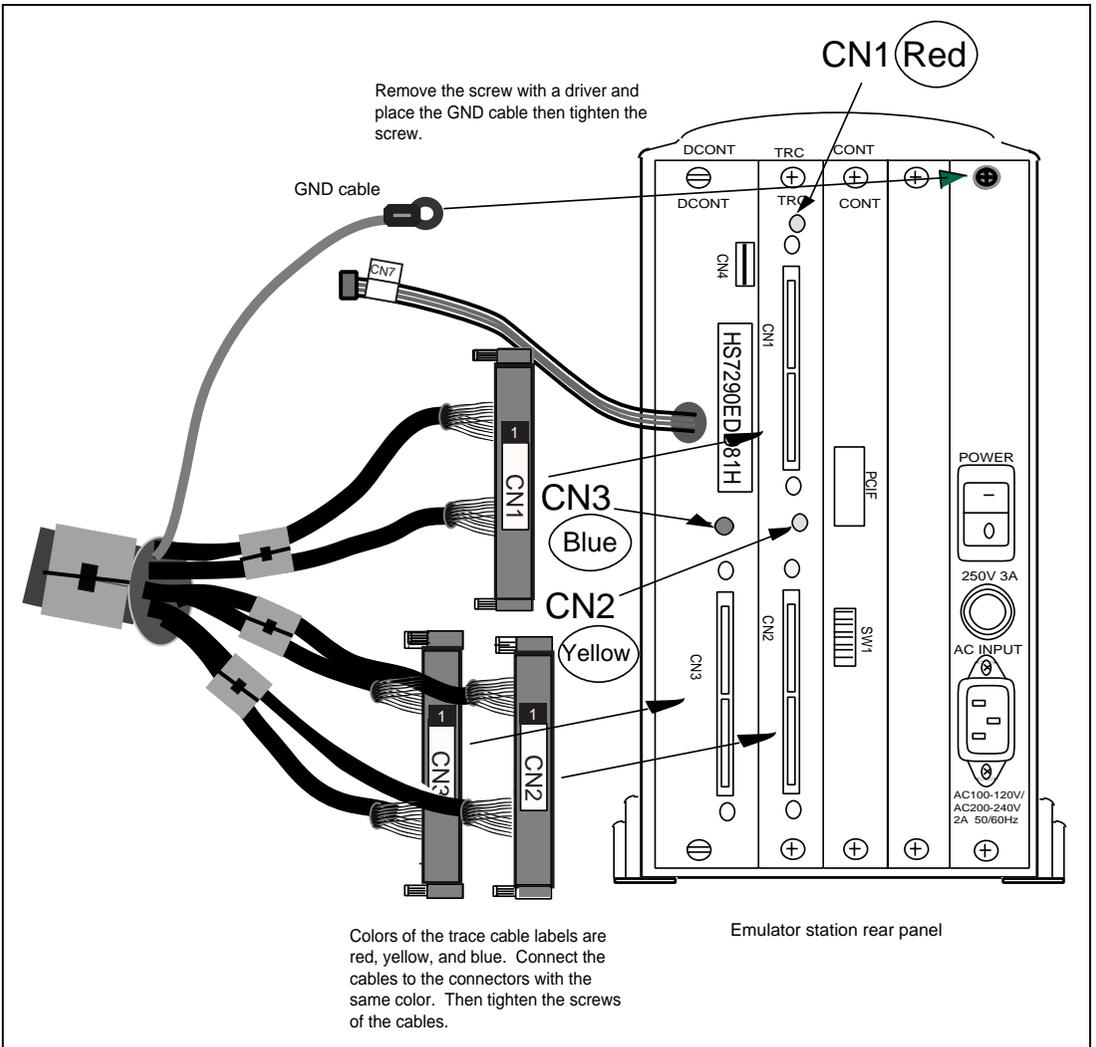

Figure 3.4 Connecting Trace Cables to the Emulator Station
3. Connect the trace cables into the station to evaluation chip board interface connectors (CN1, CN2, and CN3) on the emulator station's rear panel. Confirm that the shape of the trace-cable plug matches that of the station to evaluation chip board interface connector before connecting. Also note which trace cable is connected to which emulator-station connector so that the other end of the trace cable is connected to the matching connector number on the evaluation chip board. After the connection is completed, alternately tighten the screws on both sides of the trace cable to prevent the upper or lower side of the trace cable from lifting off the connector. Figure 3.4 shows how to correctly connect the trace cables to the emulator station connectors.